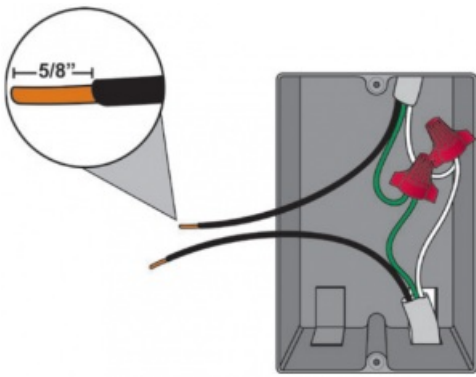

Figure 1. Strip wire insulation
3. Prepare each wire. Wire insulation should be stripped back 5/8 of an inch from the wire end **(see Figure 1)**.